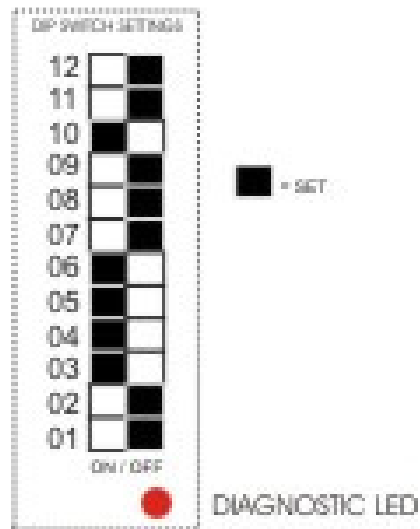

Fig.52
- Remove the rubber grommet covering the DIP switches. Note the location of the Amber Diagnostic LED(Fig.52)